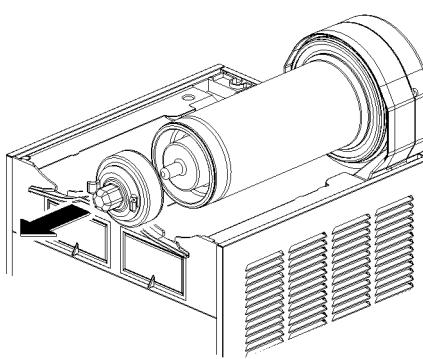

figure 9
**3** Slide the outer spiral out (see 3) and then Outside magnetic rotor assembly (see figure 9).